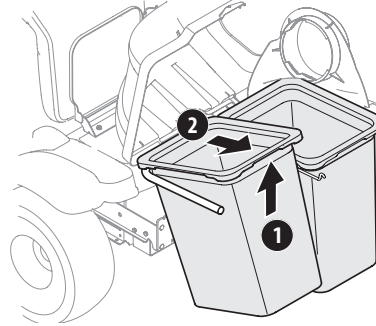

Figure 23
3. Remove the grass bags by lifting up, (1) in Figure 23, and moving the bags away from the bag support assembly (2).